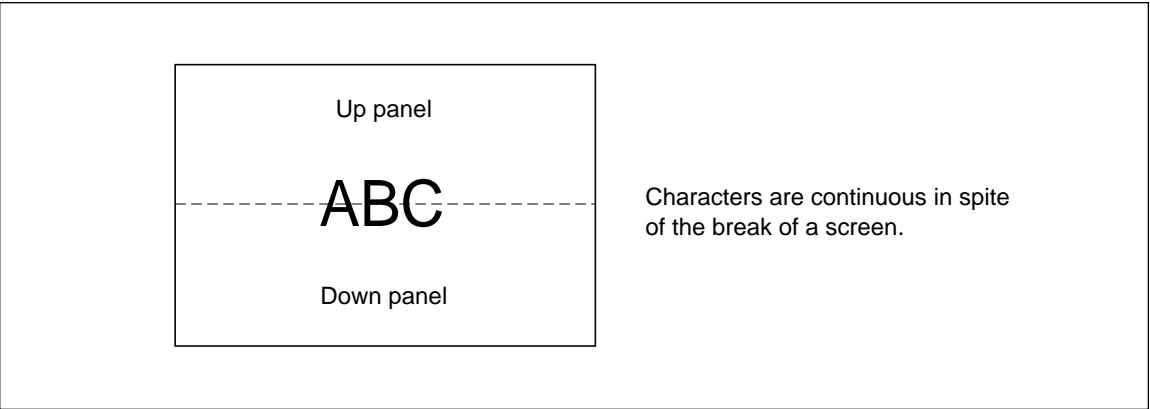

Figure 21 Example of the Display in the Character Mode
When the LCTC mode is set for character display and dual screen, memory addresses (MA) and raster addresses (RA) are output in such a way as to keep continuity of a display spread over the two panels. Therefore users can use the LCTC without considering the multiplexing duty ratio (the number of vertical dots of a screen) or the character font. (See figure 21.)